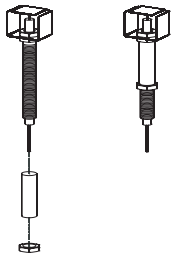

Figure 5
- Slide ignitor spacers (11) onto collector box assemblies (10) and secure with nuts. See Figure 5.